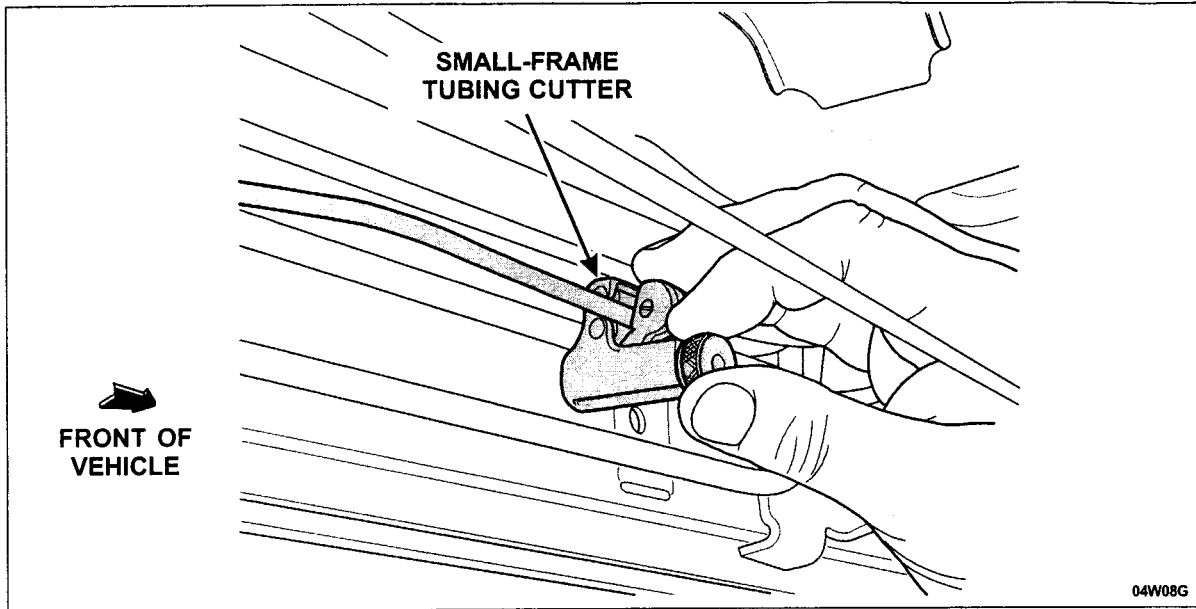

FIGURE 7
4. Using a small-frame tube cutter, cut the brake tube(s) as shown in Figure 7.